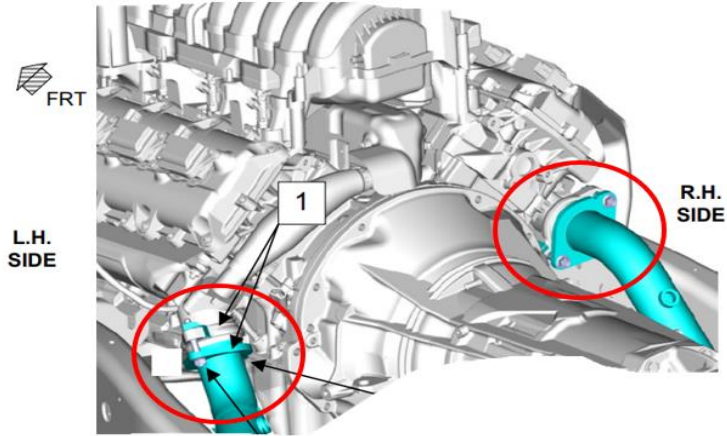

Fig 1.
1. Loosen, but do not remove, the exhaust manifold to Y-pipe fasteners to allow "free" movement in the exhaust joints. (Fig 1)